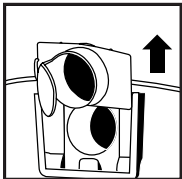

FIGURE 28
40. Remove inlet deflector from deflector guide. **FIGURE 28.** **NOTE:** Hose must be removed before inlet deflector can be taken out.